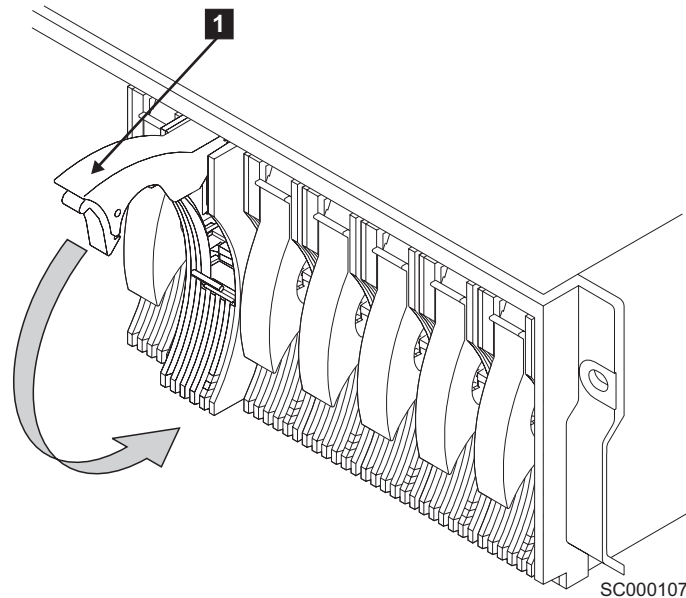

Figure 52. Closing the handle of a disk drive module
9. While continuing to push the disk drive module into the slot, slowly close the handle **1** until it stops with a click. This action pushes the module fully home, as Figure 52 on page 67 shows.